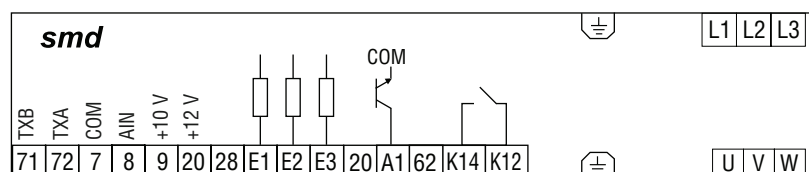

Figure 1: **smd** Control Strip
Only standard **smd** models with an “L” as the eighth digit in the model number (ex. ESMD371L4TXA) are equipped with Modbus RS-485 capabilities. When using this feature the drive can communicate with a personal computer (PC), programmable logic controller (PLC), or other external device that utilizes Modbus RS-485 serial communication for control or monitoring. Refer to the **smd** Operating Instructions (SL03) for connection details. Figure 1 illustrates the **smd** control strip. Terminals 7 (COM), 71 (TXB) and 72 (TXA) are used for RS485 communication.